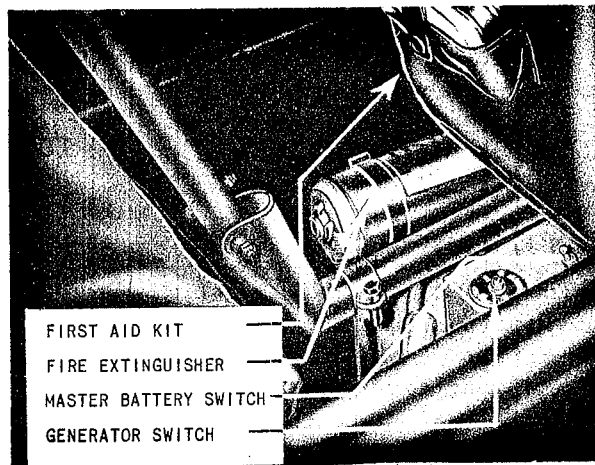

Figure 6—Emergency Equipment on the Model L-4A
a. EMERGENCY EQUIPMENT. (See figures 6 and 7.)—A 1 U. S. quart carbon tetrachloride hand fire extinguisher is clipped to the floor between the front and rear seats. It is easily removed with a quick upward movement after the safety catch is released. The